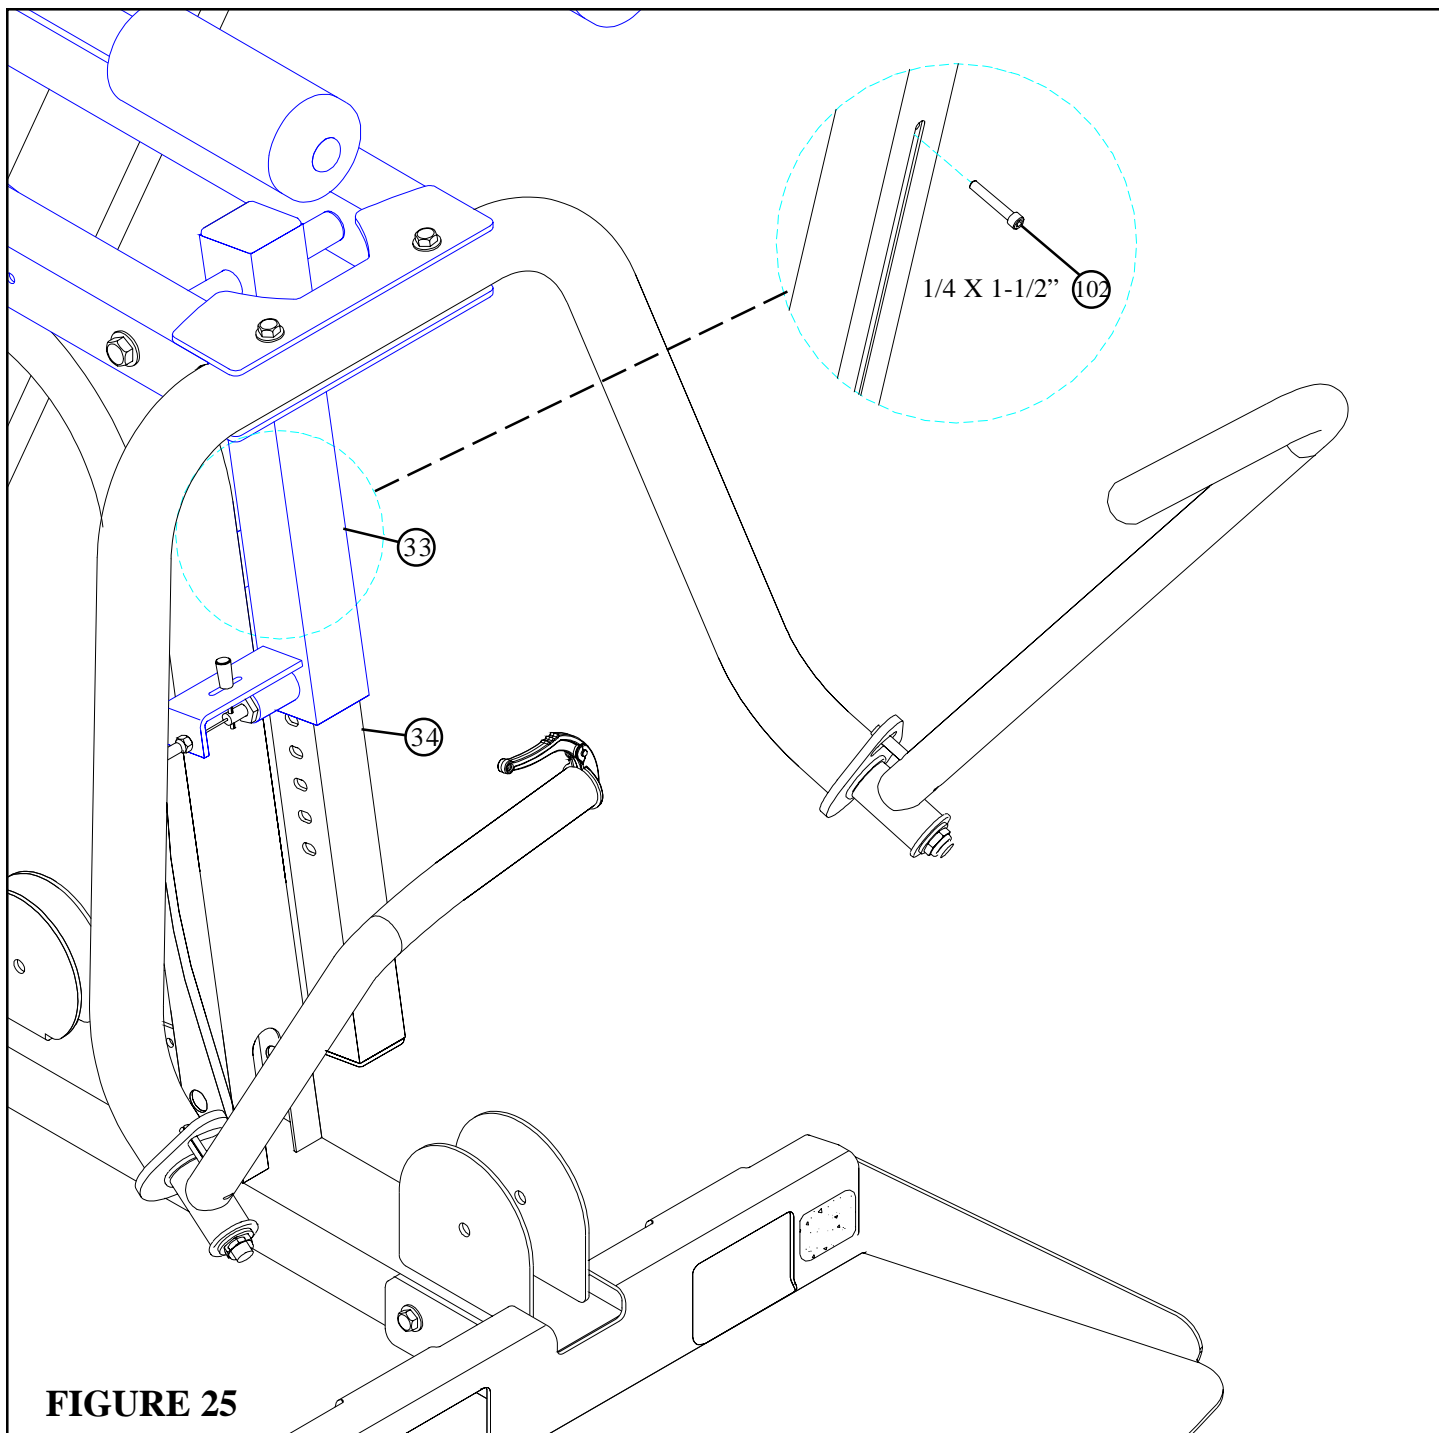

FIGURE 25
- **SECURELY** assemble one 1/4" X 1-1/2" SOCKET HEAD CAP SCREW (102) thru the EXTERIOR PRESS ADJUST (33) and into the small threaded hole on the INTERIOR PRESS ADJUST (34) as shown in FIGURE 25.